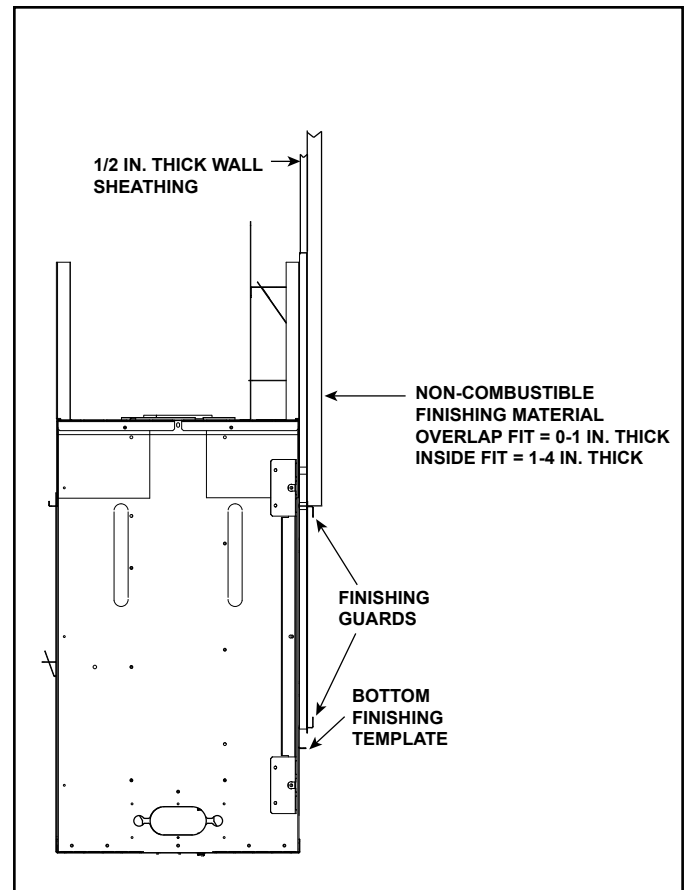
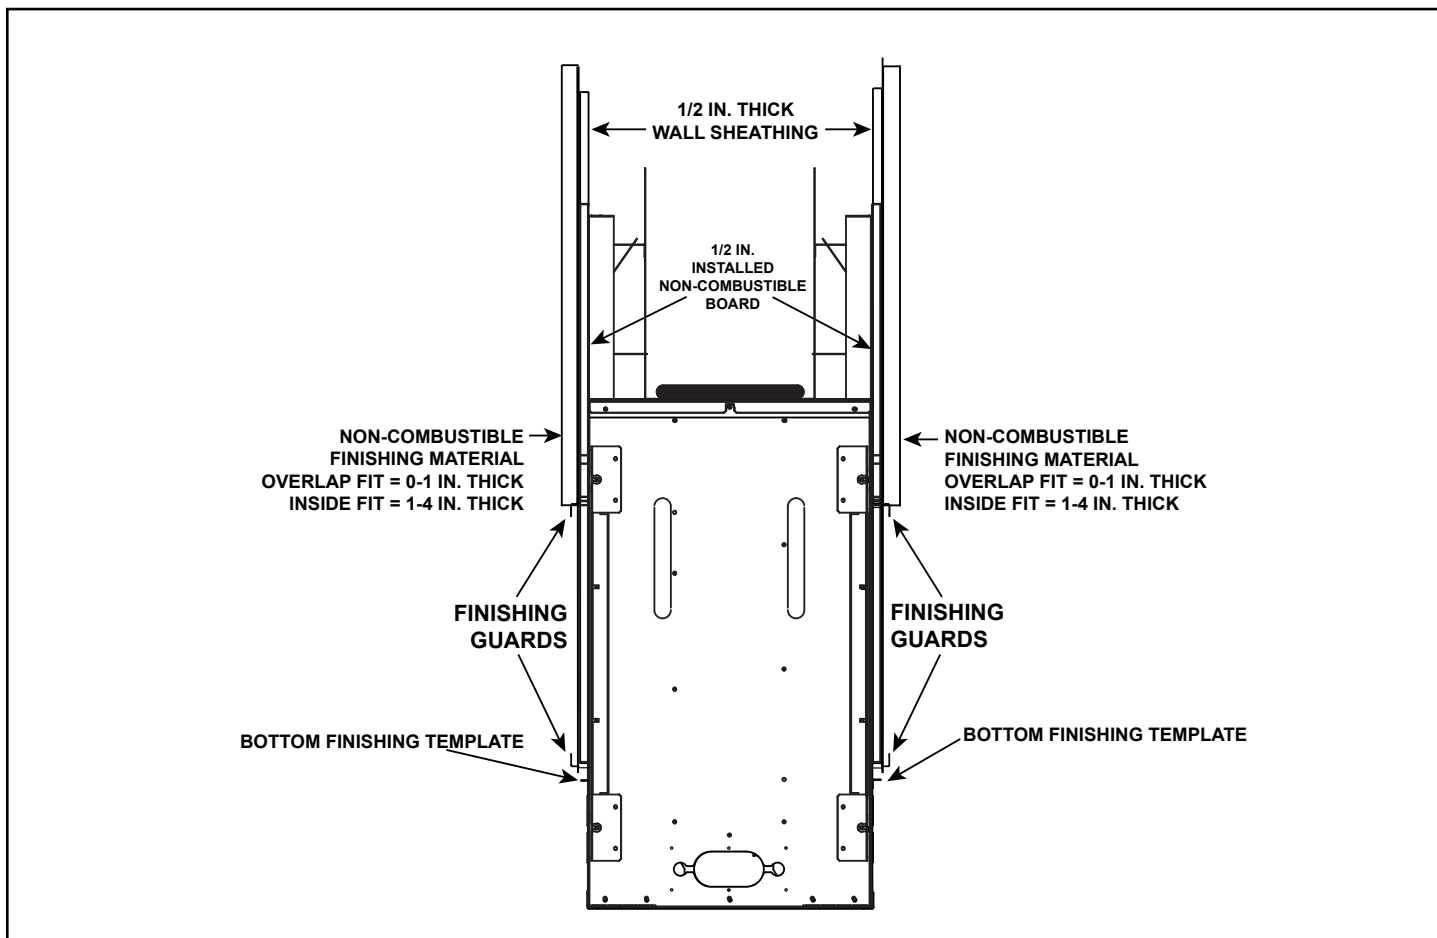

Figure 10.2 Finishing and Facing Materials - Single-Sided Models
Figure 10.3 Finishing Materials - See-Through Models
Decorative facing material thickness is measured from the face of the installed non-combustible board. See Figure 10.2 and Figure 10.3.
The fronts for this appliance are compatible with non-combustible materials. See Figure 10.2 and Figure 10.3.
- 1. Remove bottom finishing template from bottom access panel. Verify that factory-installed finishing guards are installed to ensure finishing material does not extend into the fireplace opening. See Figure 10.2 and 10.3.
1. Remove bottom finishing template from bottom access panel. Verify that factory-installed finishing guards are installed to ensure finishing material does not extend into the fireplace opening. See Figure 10.3.